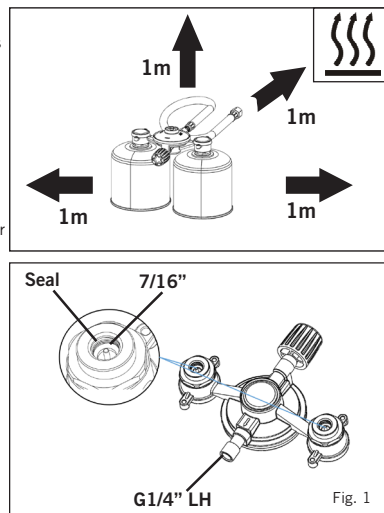

Fig. 1
- Check that the seals (Fig. 1) are in place and in good condition before connecting the gas container to the appliance. Do not use the appliance if it has a damaged or worn seal. If in doubt, replace the seal before use.